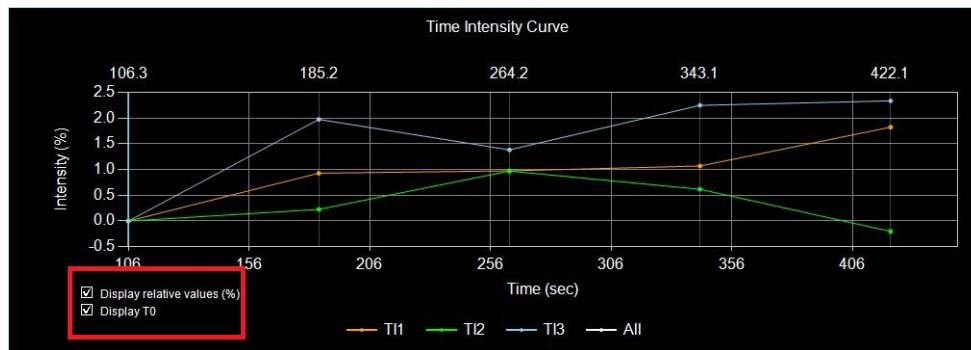

Figure 21-7 Check Boxes for Display Relative Values and T0
2. To display the percentage of enhancement instead of the intensity, select the check box next to **Display Relative Values (%)** under the TIC graph. (Figure 21-7)